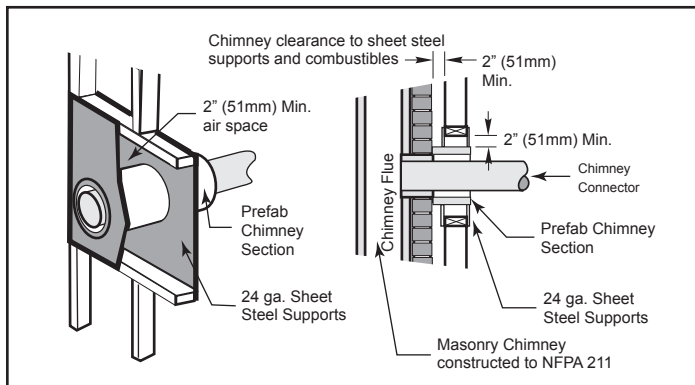

Figure 5.9 - Wall Pass-through with ventilated steel thimble.
- Placing a chimney connector pipe inside a section of 9" (229 mm) diameter, solid-insulated, factory-built chimney, with two inches of air space between the chimney section and combustibles. (Figure 5.9)